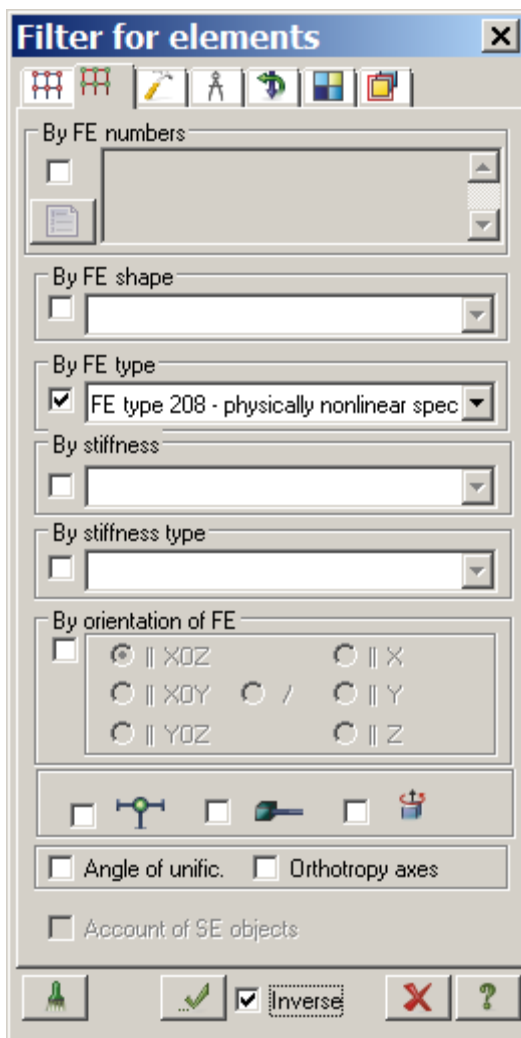

Figure 10.14 PolyFilter dialog box
- ⇒ In the **PolyFilter** dialog box (see Figure 10.14), click the **Filter for elements** tab.